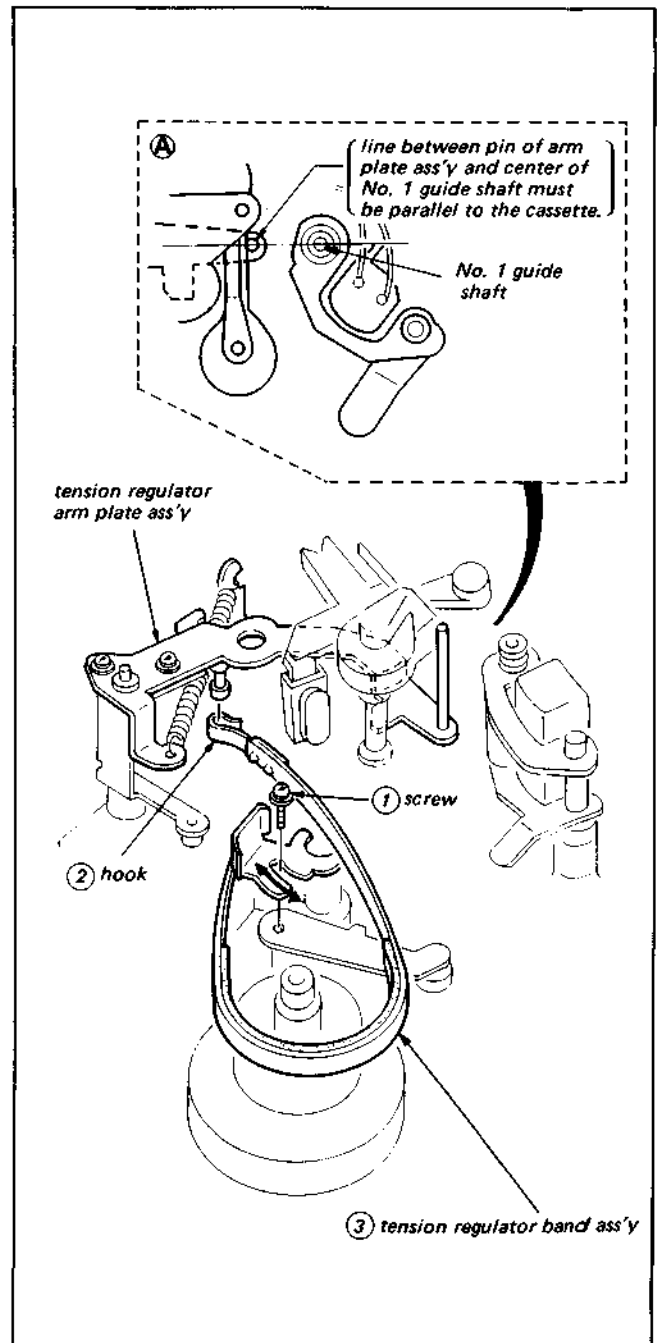

Fig. 3-10. Replacement and adjustment of the tension regulator band assembly
1. The tension regulator band assembly can be removed after removing screw ① and hook ② shown in Fig. 3-10.
- (iii) Move the tension regulator band assembly ③ in the arrow direction as shown in Fig. 3-10 so that the positional relationship of the brake band assembly is as shown ④ in Fig. 3-10. Then tighten screw ①